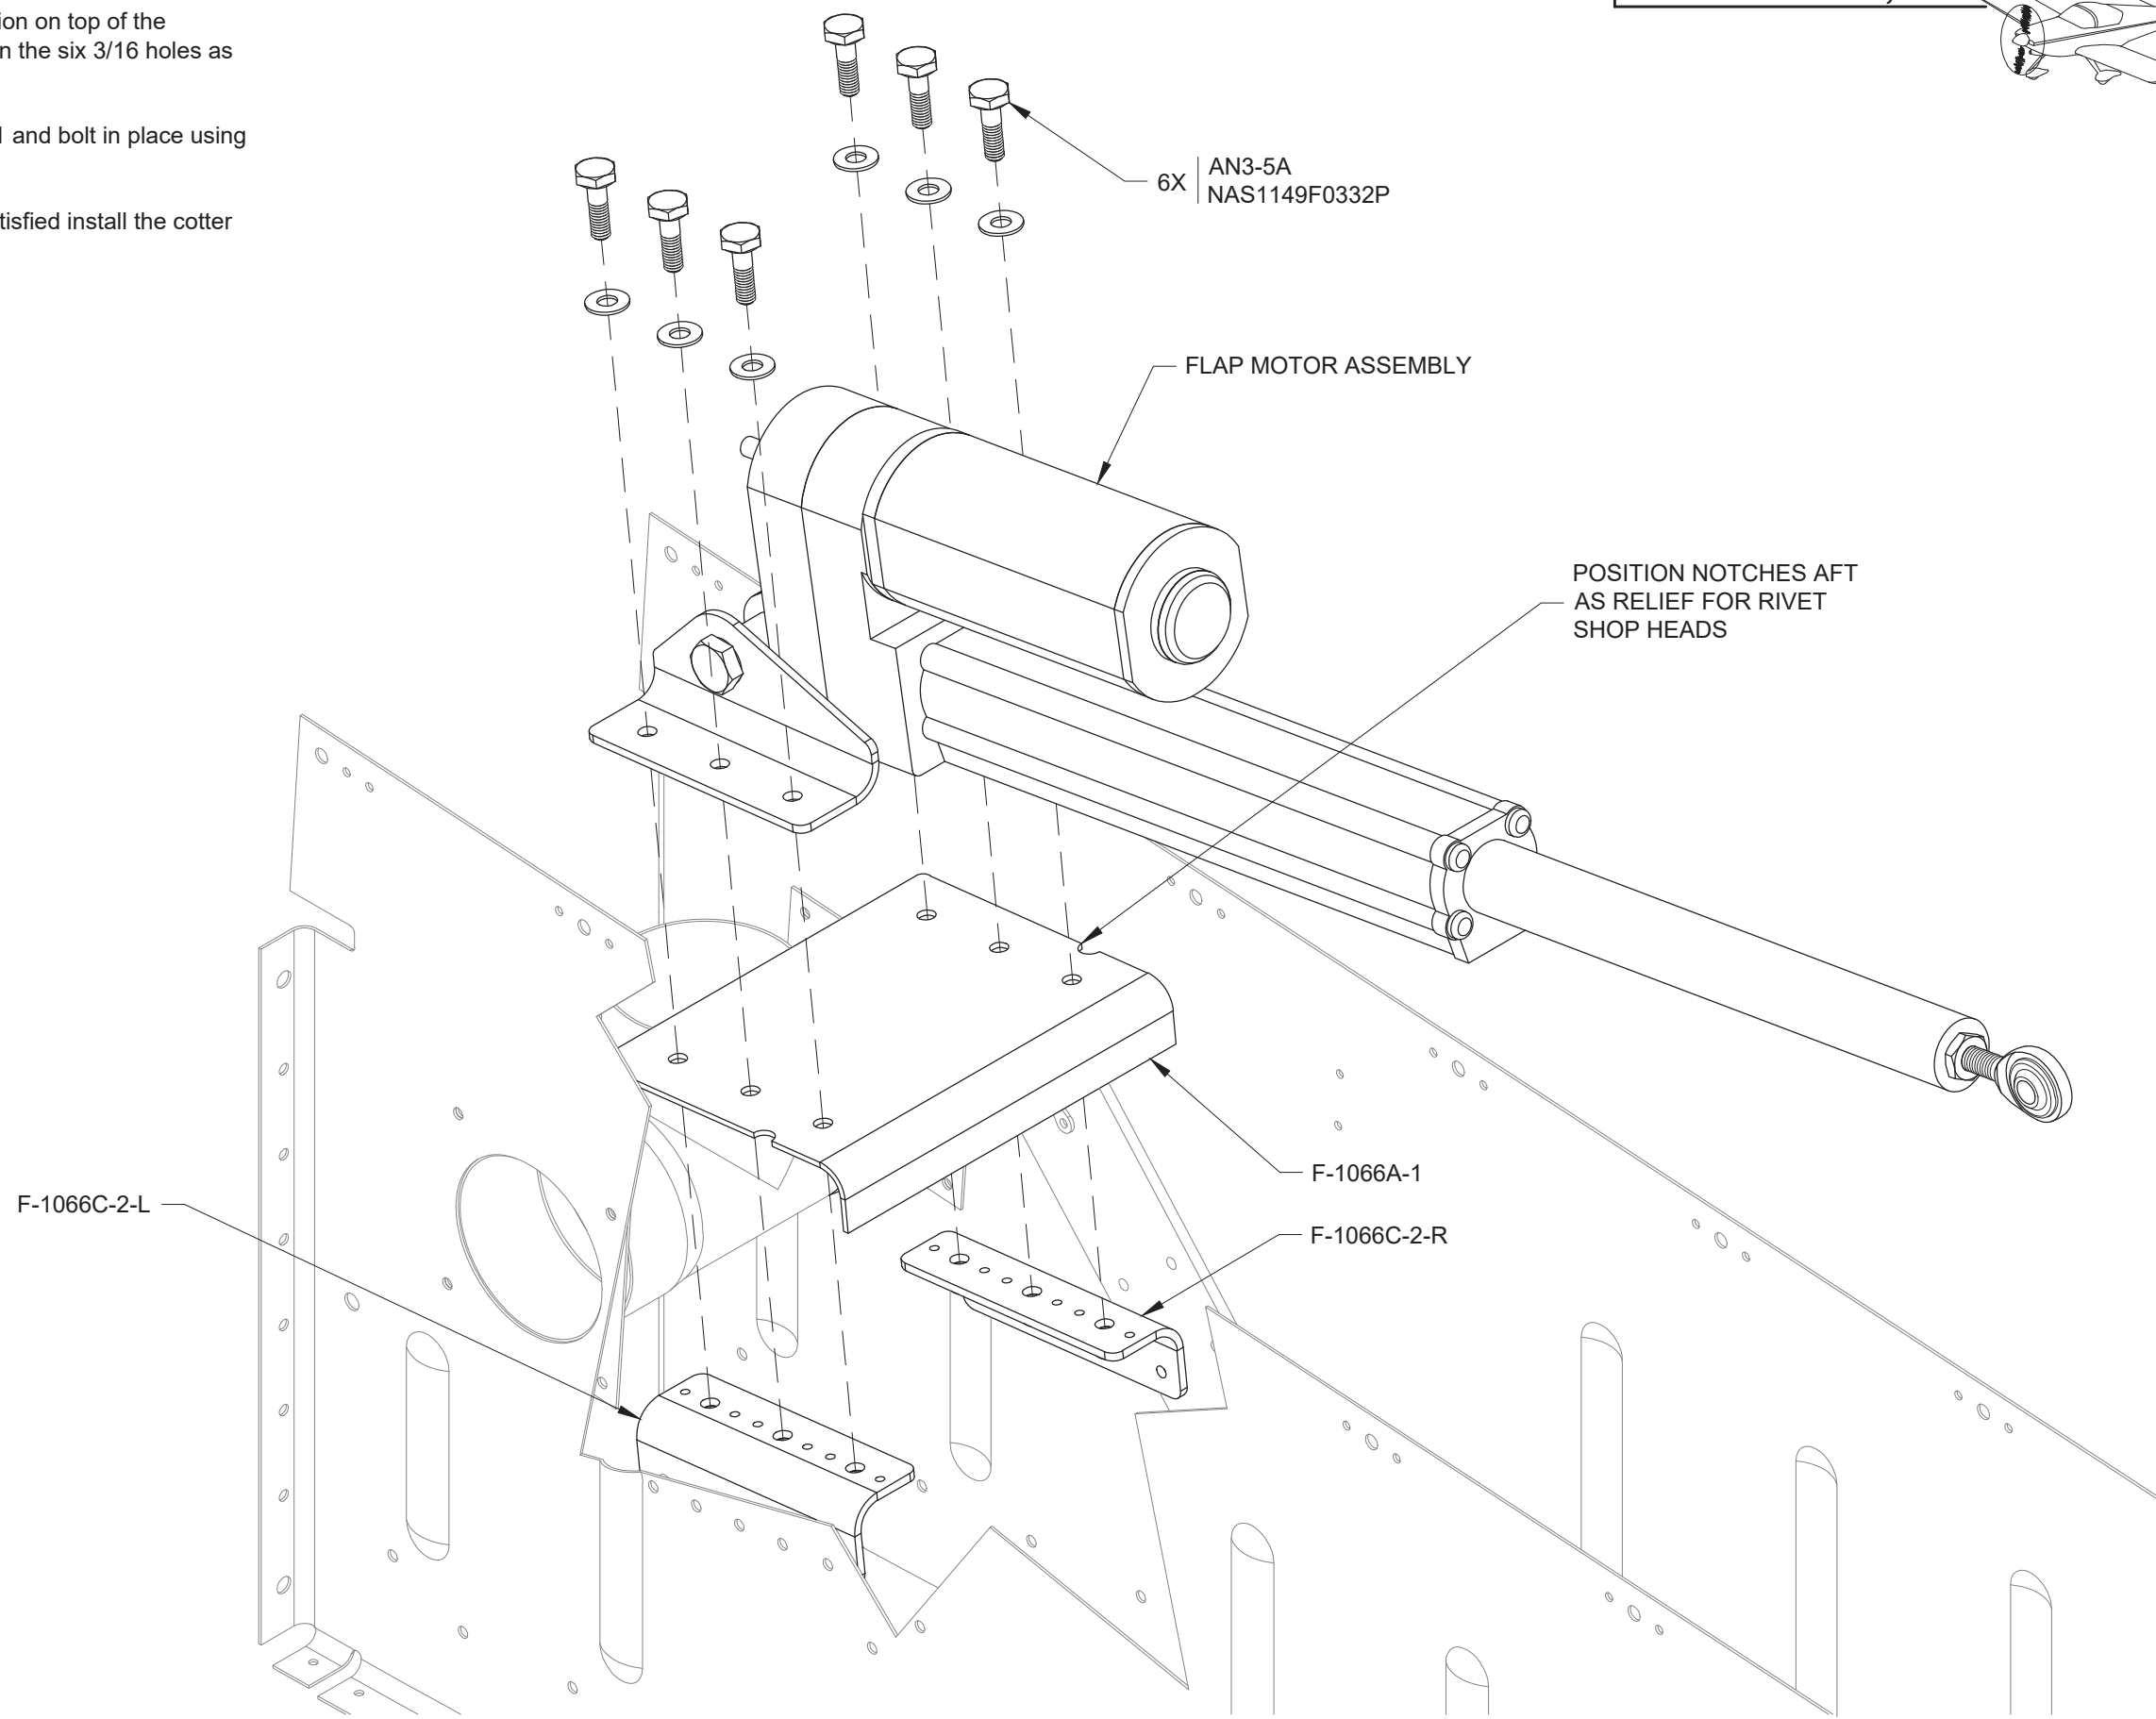

FIGURE 1: FLAP MOTOR INSTALLATION
Step 2: Lower the Flap Motor Assembly onto the F-1066A-1 and bolt in place using the hardware called out in Figure 1.
Step 3: Check for excessive friction and end play. When satisfied install the cotter pin from Page 64-04, Figure 1.